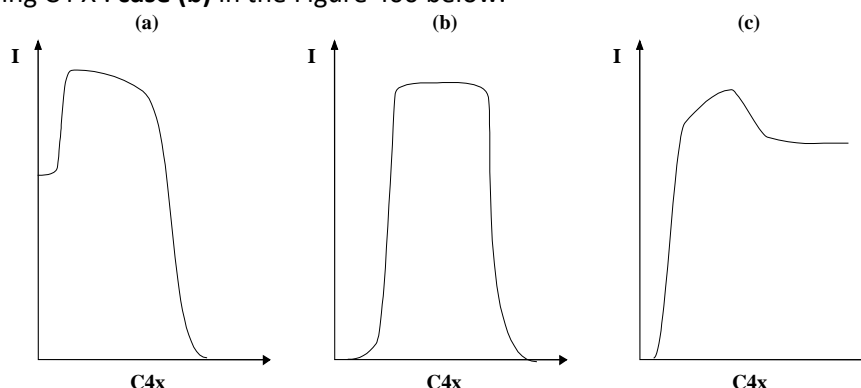

Figure 400: peak shape when tuning C3 X while scanning C4 X.
- b. Adjust C3 X (LF5  $\rightarrow$  Def 3  $\rightarrow$  C3 X) as to obtain a peak as symmetrical as possible when scanning C4 X : **case (b)** in the Figure 400 below.